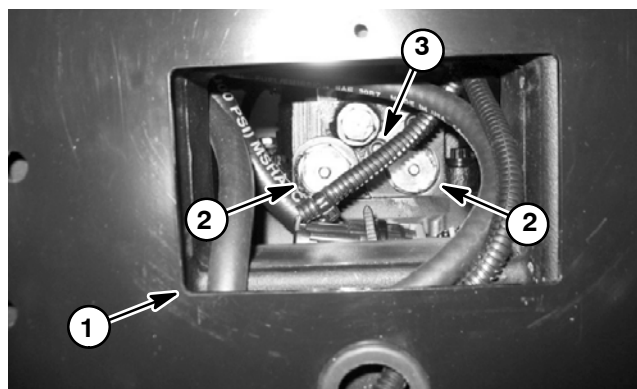

Figure 16
4. Thoroughly clean the area around the 1/8 inch pipe plug located on the top of the transmission between the two check valves (Figs. 16 and 17). Remove the plug from the transmission.